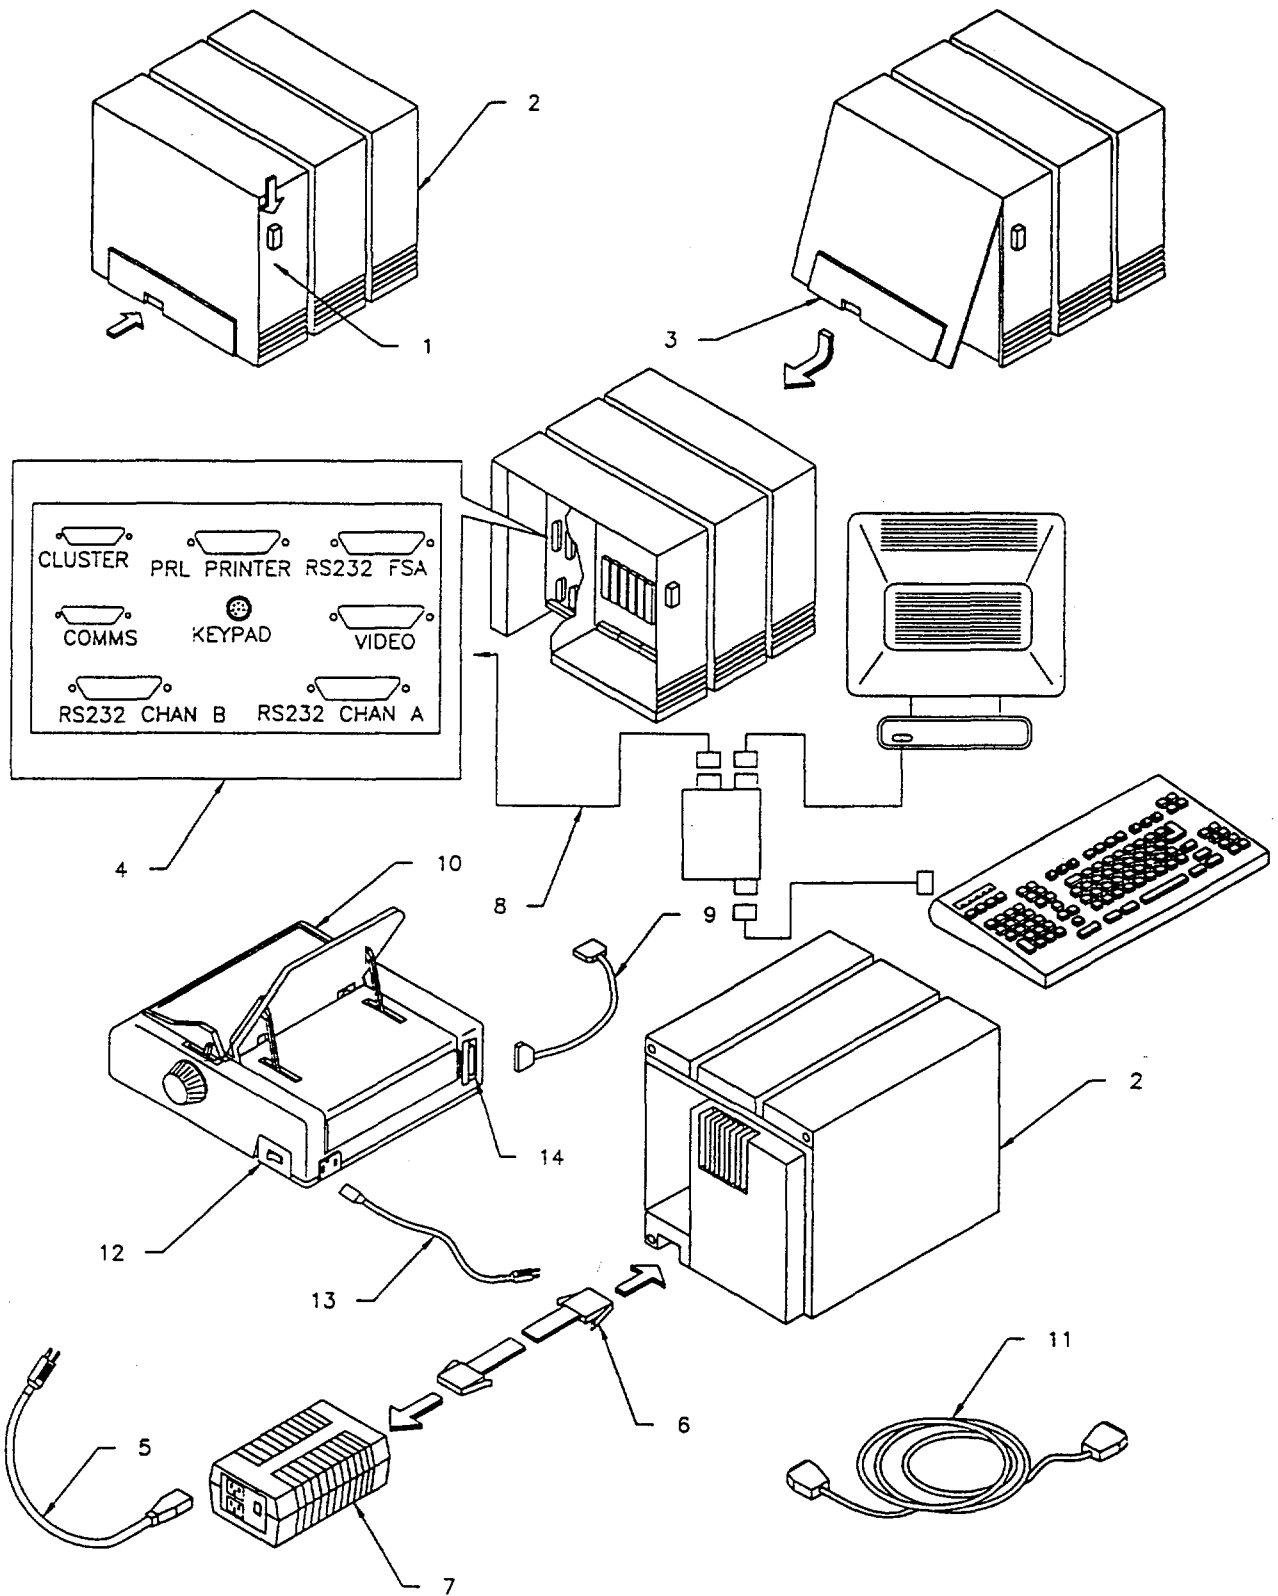

Figure 3-30. Operator Workstation Interconnecting Diagram
- (1) Gently push serial interface cable connectors onto B39 CPU connector (3) and printer serial i/o card connector (9) and tighten down with two screws on each cable connector.
- (2) Press printer power switch (10) to on position.
**3-19. REPLACE OPERATOR WORKSTATION, B38 CPU.** (Figure 3-30).
**3-23. REPLACE CLUSTER CABLE.** (Figure 3-30 and 3-26).
- (2) If cluster cable was removed from between two B38 operator workstations (Figure 3-30), place cluster cable (11) connector on cluster connector on B38 CPU panel (4) and tighten with two captive screws.
- (3) Repeat step 2 above for second processor assembly connection.
- (4) Reinstall B38 CPU (2) side cover (3).
**3-24. REPLACE LOG PRINTER ASSEMBLY.** (Figure 3-30).